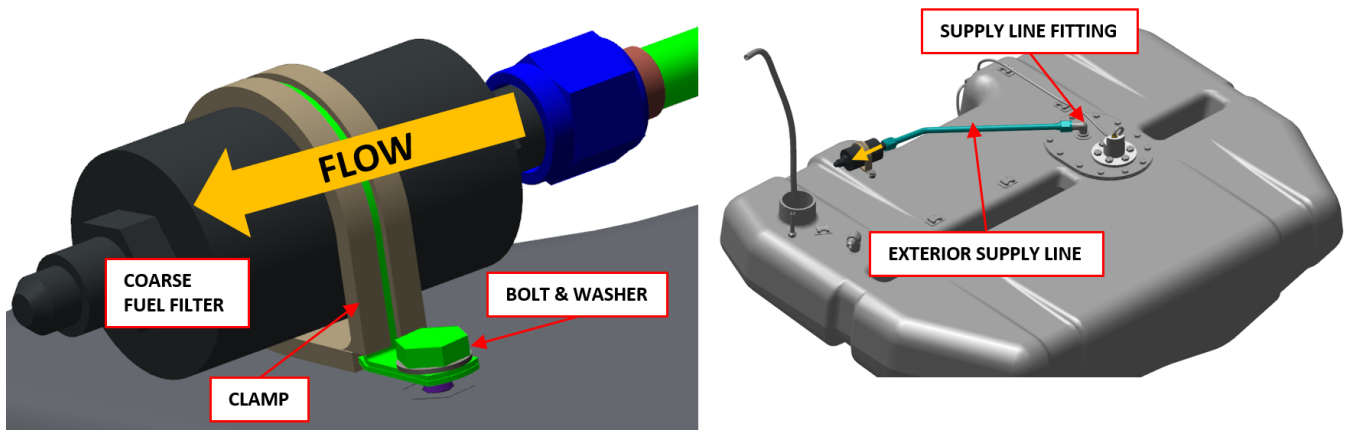

Figure 6 – Coarse fuel filter clamp and exterior supply line.
2. Disconnect exterior fuel supply line, Figure 6:
4. Connect exterior fuel supply line, Figure 6: